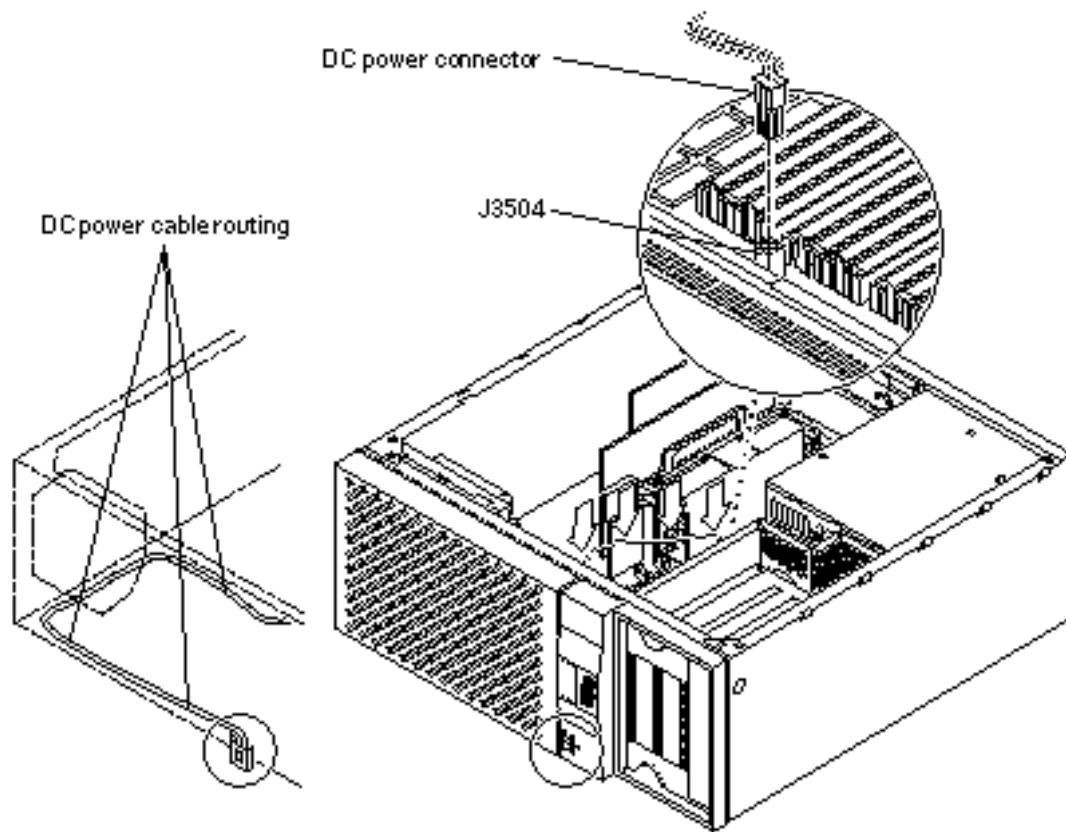

Figure 1-10 DC Switch Assembly Cable Routing
- 9. Disconnect the DC switch assembly power connector from motherboard connector J3504 (Figure 1-10).**
- b. Feed the DC switch assembly power cable through the chassis front (Figure 1-10).
3. Route the DC power cable along the chassis front and side. Secure the power cable in place using the cable routing clips (Figure 1-10).
4. Connect the DC switch assembly power connector to motherboard connector J3504 (Figure 1-10).